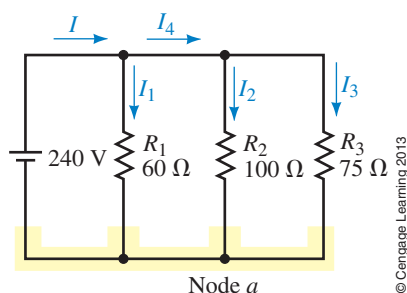

FIGURE 6–79
38. Repeat Problem 37 for the circuit of Figure 6–80.